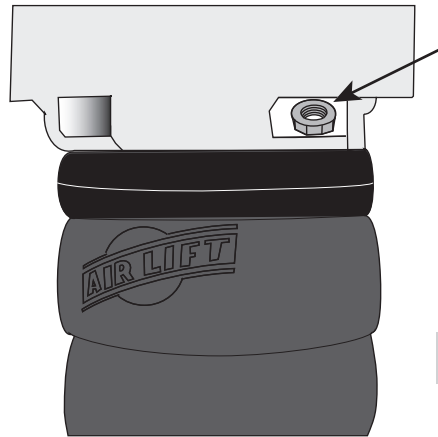

fig. 12
2. Set whiz nut (O) up inside of the upper bracket (Fig. 12 & 13) with flange up (Fig. 12).